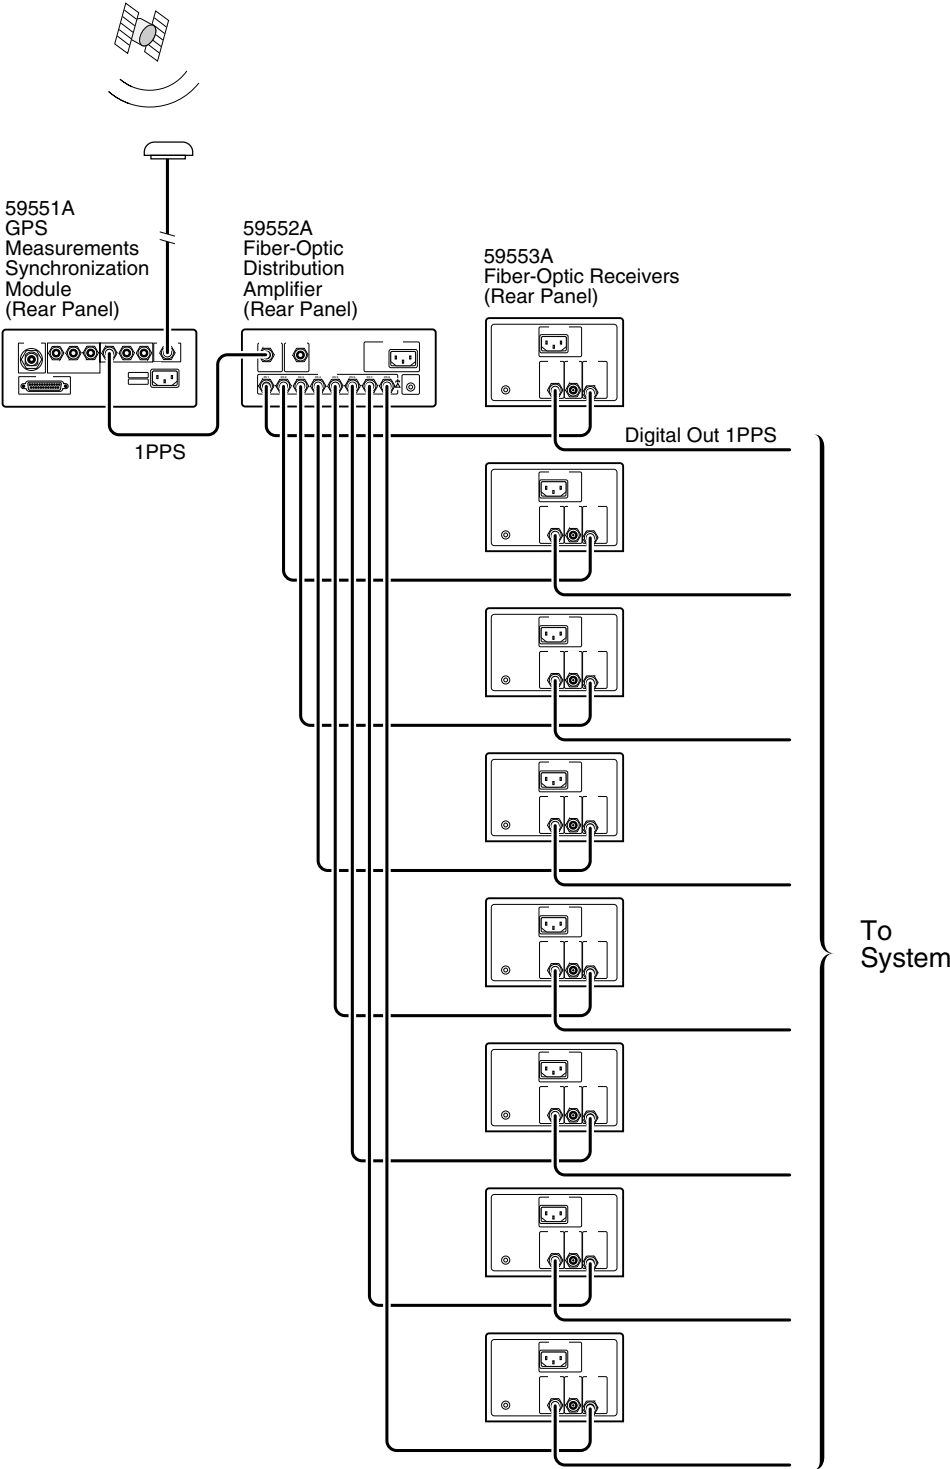

Figure 2-8. One-Signal Digital Mode Hookup (Using Eight 59553As)
- 5 Now, connect the units as shown in Figure 2-8.